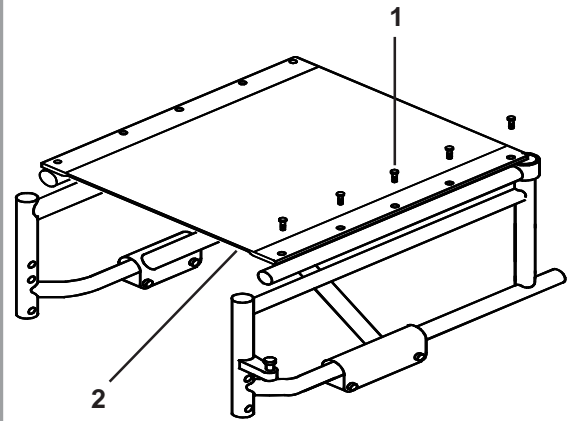

Fig. 31
To adjust the height of swing-away footplates (Fig. 31), loosen the screw (1), located as shown, using a 4mm Allen key and set the footplate height to the required position. Tighten the screw to 5-8Nm torque using a 4mm Allen key.
The seat sling (Fig. 31) can be re-tensioned through the use of Velcro® panels (2) underneath the seat. Remove the No 2 Philips screws (1) retaining the left side of the seat sling with a No 2 Philips screwdriver, re-adjust the Velcro® to bring the sling to its correct tension. Replace the screws and tighten to 5-8Nm.